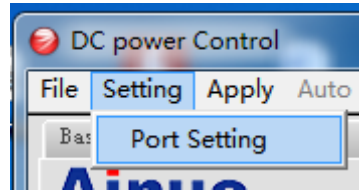
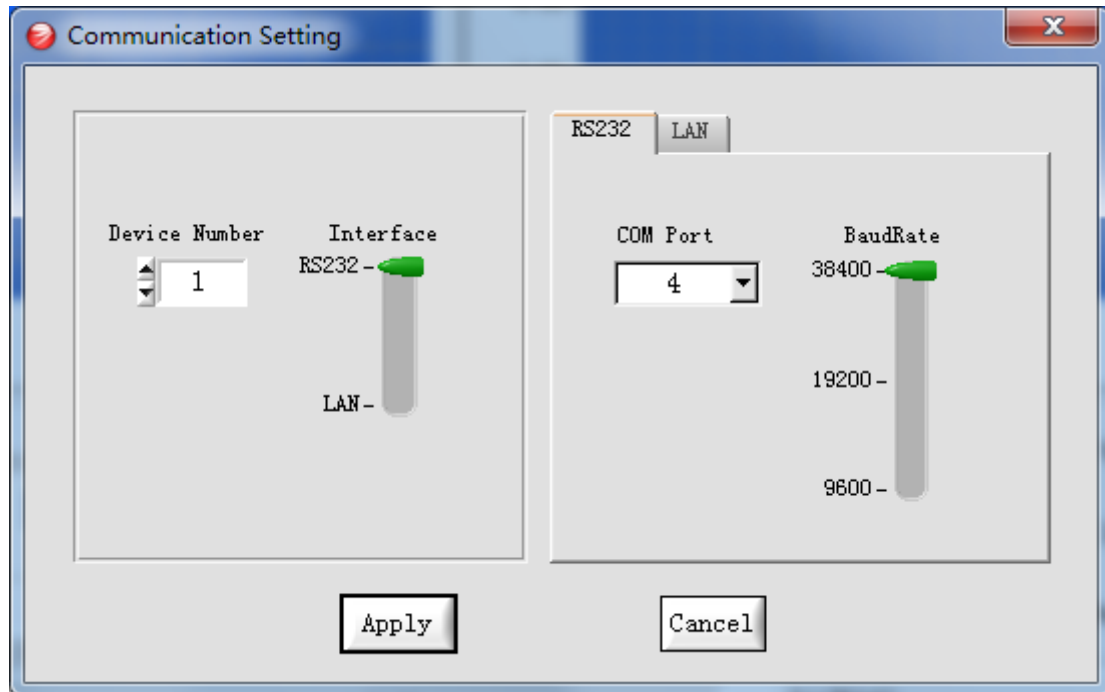

Figure 3.2.1 Port setting
Figure 3.2.2 Communication setting
When using the computer software for the first time, communication parameters need to be set manually, as shown in Figure 3.2.1. Click "Setting" -> "Port Setting" in the menu bar, and the communication Setting interface will pop up, as shown in Figure 3.2.2. If you open the software again, it will automatically connect according to the current communication parameters.
(1) Setting of upper computer: As shown in Figure 3.2.2, after setting "Device Number" and "BaudRate", click **Apply**. The value of Device Number is the same as that of address, and the value of BaudRate is the same as that of BaudRate.
(2) Power supply setting: Press **F4** under the general interface to enter "Comprehensive Setting", and then press **F1** to enter "Communication Setting" for editing.
(1) Setting of upper computer: as shown in Figure 3.2.2, RS232 is still selected as the communication Interface of "Interface". After setting "Device Number" and "BaudRate", click **Apply**. The value of Device Number is the same as that of power supply address, and the value of BaudRate is the same as that of power supply BaudRate.